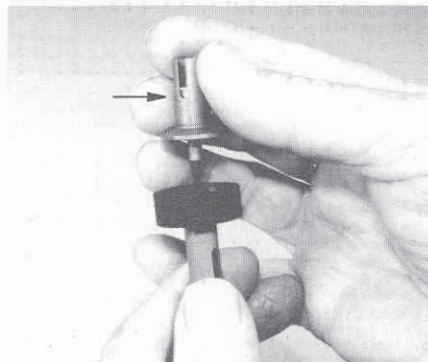

Fig. 51
□ Figs. 51 & 52 Now we are going to install the #6578 left diff outdrive assembly over the #6575 diff thrust bolt. 1) Slide the thrust bolt into the hole of the nipple on the left outdrive, then lightly push the nipple through the center of the diff gear bearing or bushing. Make sure the outdrive hub centers on the top diff drive ring when it fits into the center of the diff gear. **Note:** When picking up the left outdrive hub, place your finger over the slotted end of the hub to prevent any chance of the T-nut and diff spring from falling out during this assembly. Make sure you securely hold the Allen wrench in the head of the diff thrust bolt. This will prevent the bolt, washers, and thrust balls from sliding out during assembly and possibly losing any of the diff thrust balls.